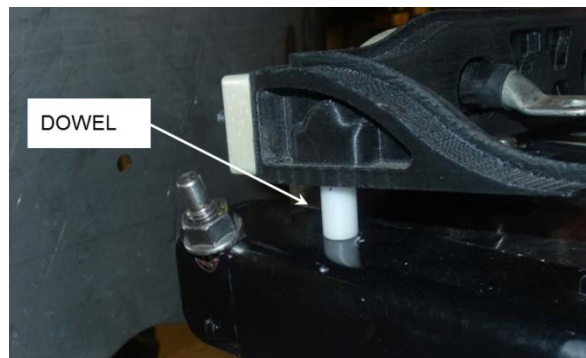

FIGURE 51: DOWEL ON ANGLE
- Align the dowels on the angles with the holes on the cable guides (FIGURE 51).